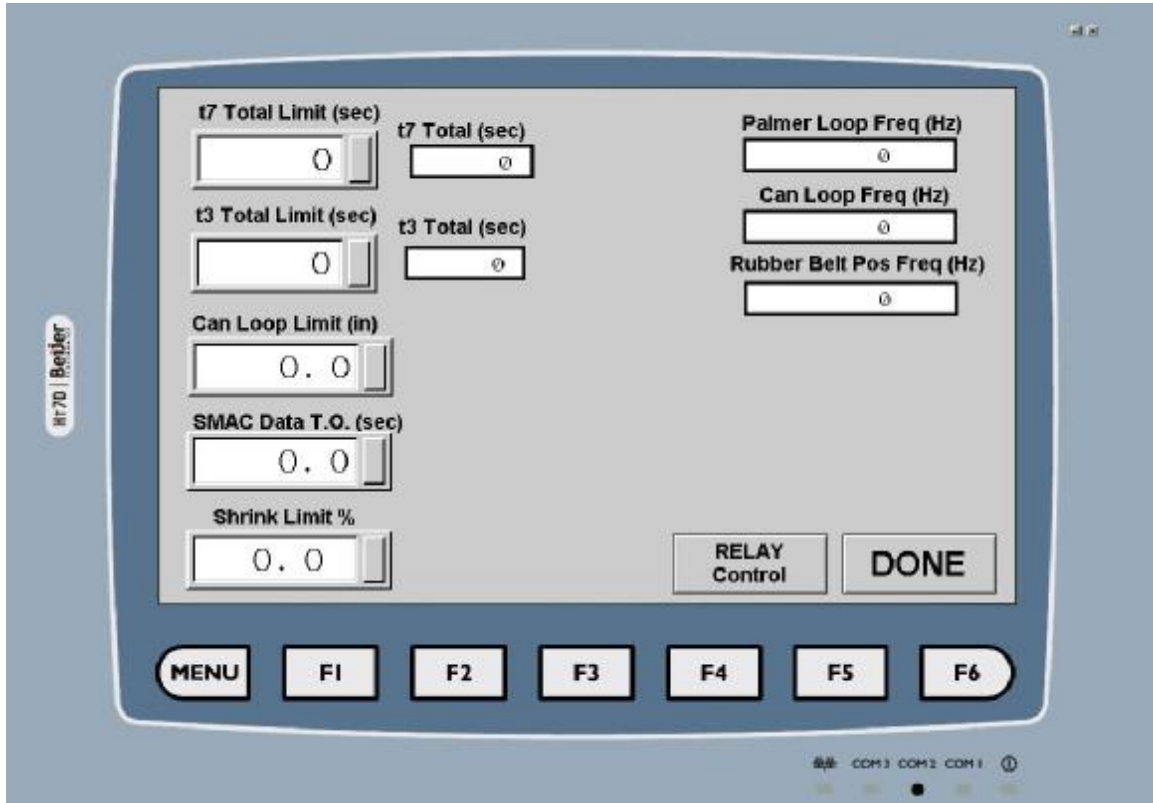

Figure 6
- e. **Advanced Setup** – See Figure 6. The advanced setup is rarely used by the technician.